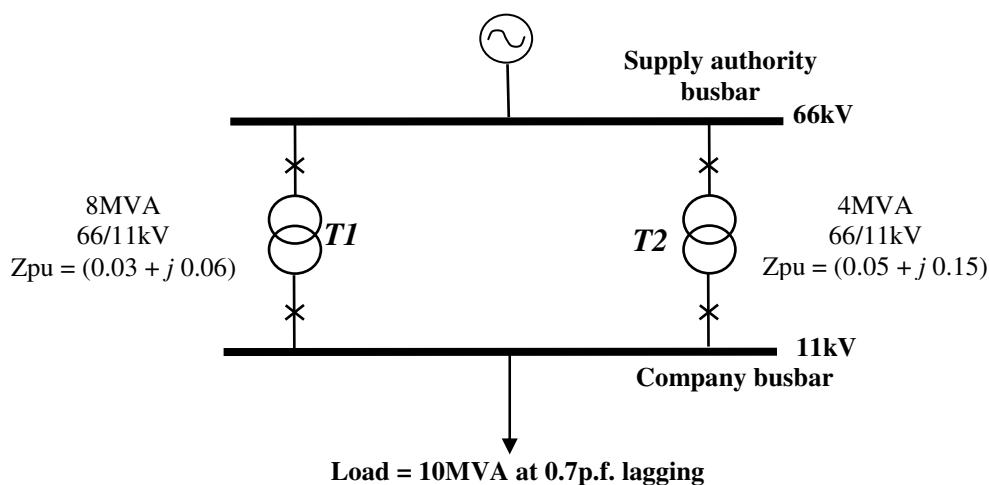

Figure 4.1
- a.** (i) Draw the equivalent circuit of a three-phase synchronous machine and explain the physical significance of the various voltages, currents and impedances. (3)
- (ii) Describe what tests would be used to characterise a synchronous machine and obtain the parameters for the equivalent circuit. (3)
- (iii) Write down the circuit equation for the machine acting as a **motor** and use this to derive phasor diagrams for operation at leading, lagging and unity power-factor. (You can assume the machine is connected to an infinite busbar system). (4)
- (i) Calculate the excitation voltage required for operation at 8MVA and 0.75 power-factor lagging. What is the percentage regulation for this condition? (3)
- (ii) The excitation is kept constant at the value calculated in part **b(i)** and the mechanical input power increased until the generator operates at unity power factor. Calculate the new input power and the load angle. (3)
- (iii) If the power input to the generator is kept at the same level as part **b(i)**, calculate the output phase current and power-factor if the excitation is decreased to a value which would give a 12% lower open-circuit voltage. (4)
- a. What conditions would be preferred when operating transformers in parallel, and explain the consequences of deviations from these ideal conditions. (3)
- b. Explain, with the aid of suitable circuit and voltage phasor diagrams, what the designations Dy11 and Dy1 indicate on a transformer nameplate. (4)
- c. The existing electrical supply to an industrial company is taken via an 8MVA, 66:11kV, 3-phase transformer, *T1*, which has a per-unit impedance of $(0.03 + j 0.06)$. The company adds a new assembly line which increases the maximum demand from 8MVA to 10MVA at a power-factor of 0.7 lagging. As a short-term solution, the supply authority arranges for a second supply to the company to be taken via a 4MVA, 66:11kV transformer, *T2*, having a per-unit impedance of $(0.05 + j 0.15)$, and connected in parallel with the existing 8MVA transformer, as shown in Figure 4.1.
- (i) Calculate the load and power-factor of each transformer when they are operating in parallel and supplying the demand of 10MVA at 0.7 p.f. lagging. (5)
- (ii) Comment on the suitability of this solution in terms of transformer load share. (1)
- d. An in-line reactor is connected in series with one of the transformers in Figure 4.1 to apportion the transformer loadings relative to their respective MVA ratings.
- (i) Explain where you would connect the in-line reactor and calculate its per-unit impedance and MVA rating. (3)
- (ii) Calculate the new loadings taking into account the reactor, to give evidence that the reactor has achieved load sharing. (2)
- e. To meet future production needs it is proposed to add a 4MVA synchronous motor, operating at 0.8 p.f. leading, in addition to the existing 10MVA load in Figure 4.1. Calculate the new overall demand of the factory and decide whether the two transformers (including the in-line reactor) could still cope without being overloaded. (2)